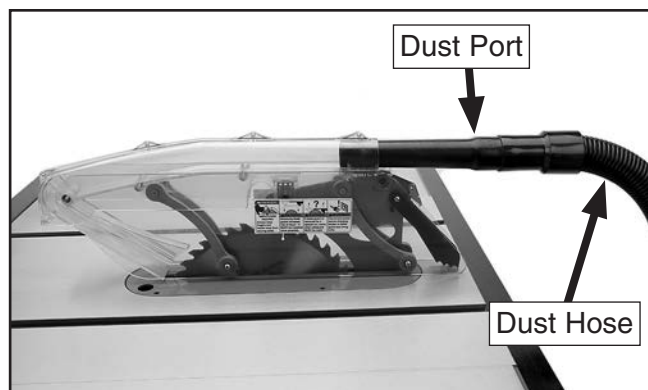

Figure 50. Dust port and dust collection hose installed on blade guard.
8. Install blade guard dust port and dust collection hose, as shown in **Figure 50**, and attach hose to dust collection port on table saw body (refer to **Page 28**).